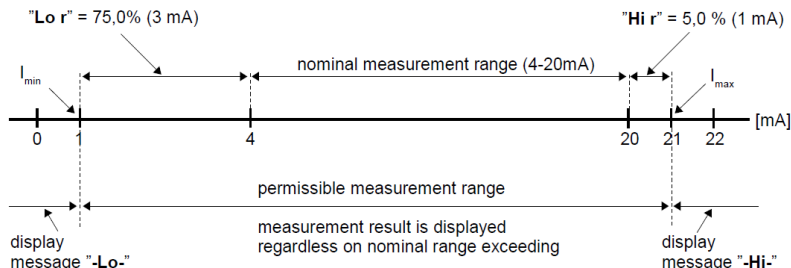

Figure 7.1 Example of definition of permissible range of input signal - “Lo r” and “Hi r” parameters (“4-20” mode)
- these parameters define the expansion of nominal range in percent. They determine the permissible range of input signal (Figure 7.1). The permissible range allow user to exceed the **nominal range** of input signal. If input value is contained in the permissible range a proper result is displayed. If input signal exceeds this range (defined by “Lo r” and “Hi r”), “-Lo-” or “- Hi-” warning is displayed depend on input signal value.